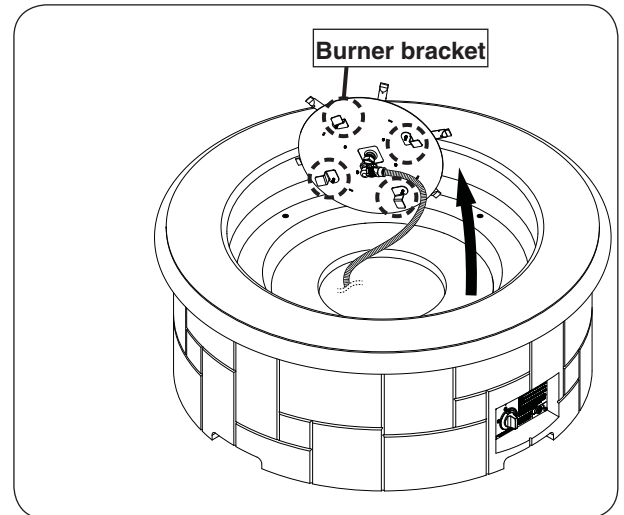

Fig. 23-2 Remove burner assembly
2. Use a $\frac{5}{16}$ " nut driver to partially unfasten the four screws found on the burner assembly. Then carefully remove the burner and set it off to the side. See Fig. 23-2.